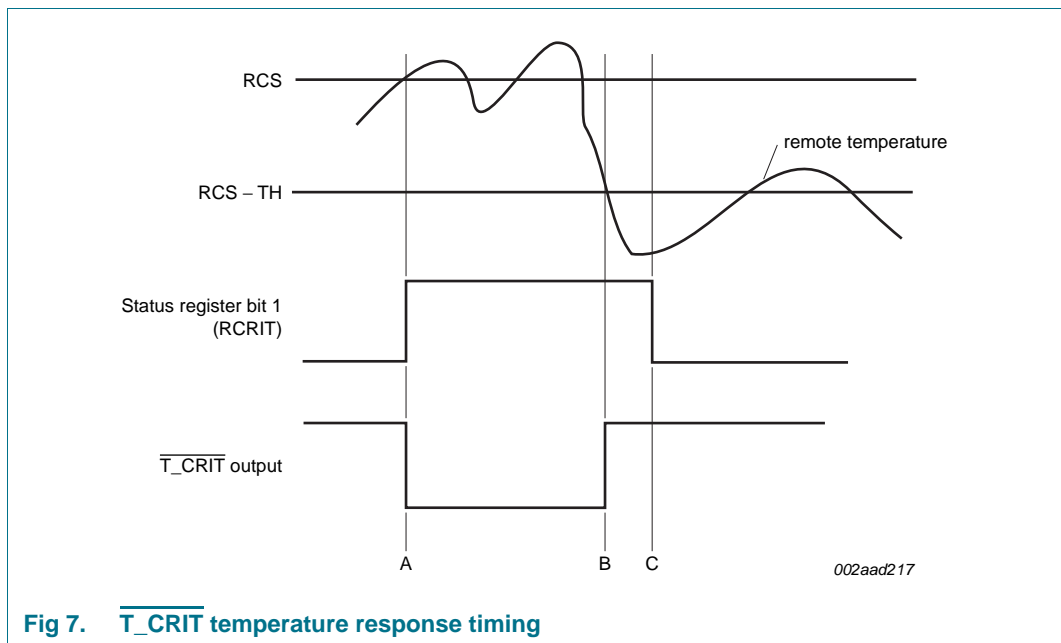

Fig 7. $\overline{T_CRIT}$ temperature response timing
After every local and remote temperature conversion the status register flags and the $\overline{T_CRIT}$ output are updated. Figure 7 is a timing diagram showing the relationship of $\overline{T_CRIT}$ output, Status bit 1 (RCRIT) and the remote critical temperature setpoint (RCS), and critical temperature hysteresis (TH) with remote temperature changes. Note that the $\overline{T_CRIT}$ output is de-activated only after the remote temperature is below the remote temperature setpoint, RCS minus the hysteresis, TH. In the interrupt mode only, the Status register flags are reset after the Status register is read.